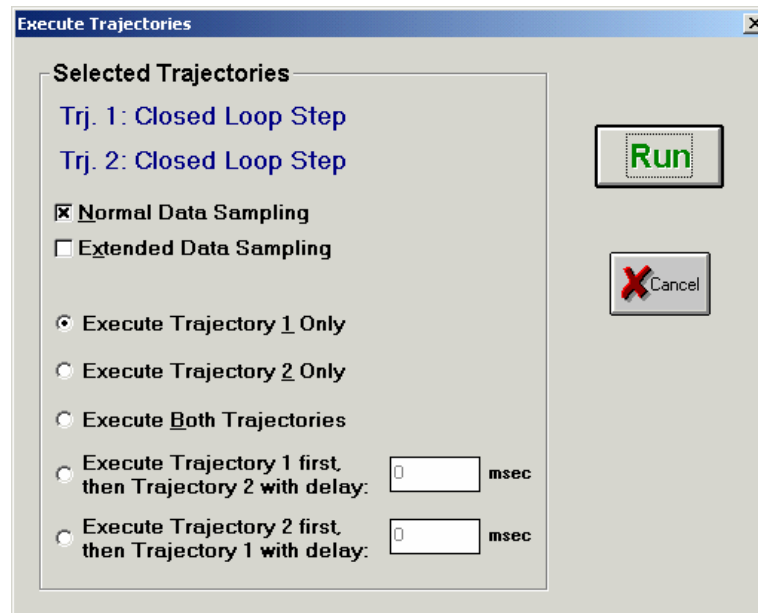

Figure 7: Execute Trajectories Window
In the Execute Trajectories Window (see Figure 7) select **Normal Data Sampling**. Depending on which Servo Motor you are trying to control, select the following:
5. Click on **Run** in the Execute Trajectories Window (see Figure 7) to start your experiment.